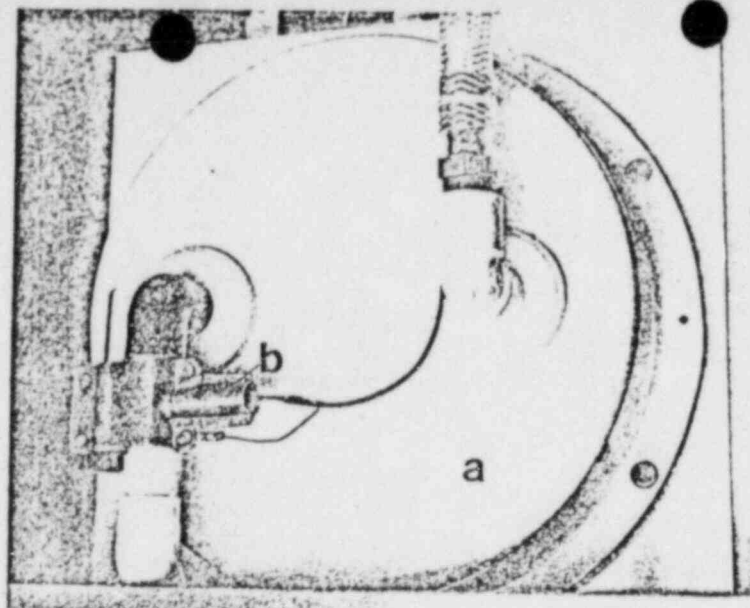

Figure 5. Ventil-Con, internal right side.
**1.2.5.2 Concentration** - An end-window GM tube (mounted perpendicular to the airway carrying the radioactive gas/air mixture from the spirometer to the patient) monitors the concentration of the gas mixture breathed by the patient. (See Figure 5.) The amplified signal from this GM tube appears on the concentration meter on the control panel (See Figure 2). The concentration can be increased simply by adding more radioactive gas to the system. It can be decreased by purging the system to the desired degree and then adding room air or O2 until the desired concentration is obtained. (See also Paragraph 3.1.3)